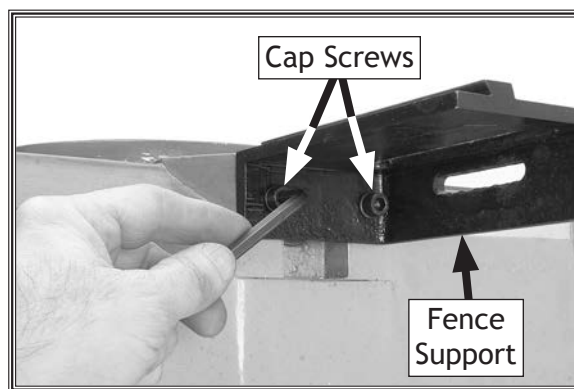

Figure 9. Attaching the fence support.
2. Use two of the included M8-1.25 x 20 cap screws and lock washers 8mm to attach the fence support to the jointer bed, as shown in **Figure 9**.